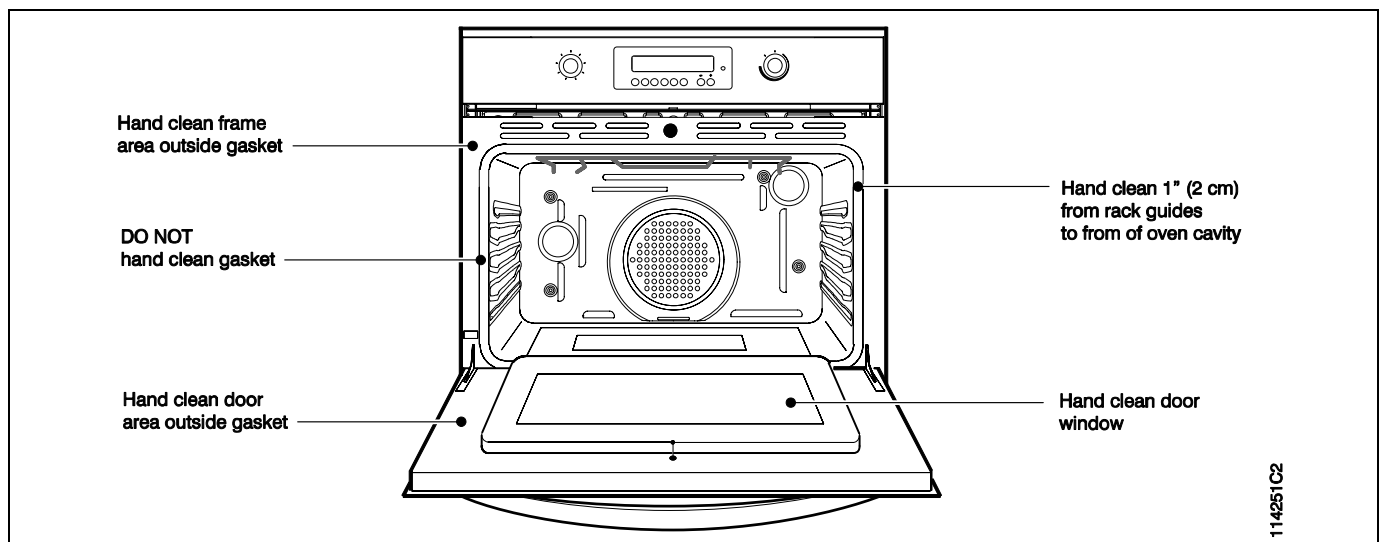

Figure 6
- **Frame Outside Door Gasket Area** - Make sure oven is cool, then use warm soapy water. With a non-abrasive plastic scrubbing pad, clean the frame surface outside the door gasket area. This area must be cleaned by hand because the area outside the gasket does not get hot enough to burn off the soil (see Figure 6).
- **Door Outside Gasket Area** - Make sure oven is cool, then use warm soapy water. With a non-abrasive, plastic scrubbing pad clean the area outside the door gasket area. This area must be cleaned by hand because the area outside the gasket does not get hot enough to burn off the soil (see Figure 6).